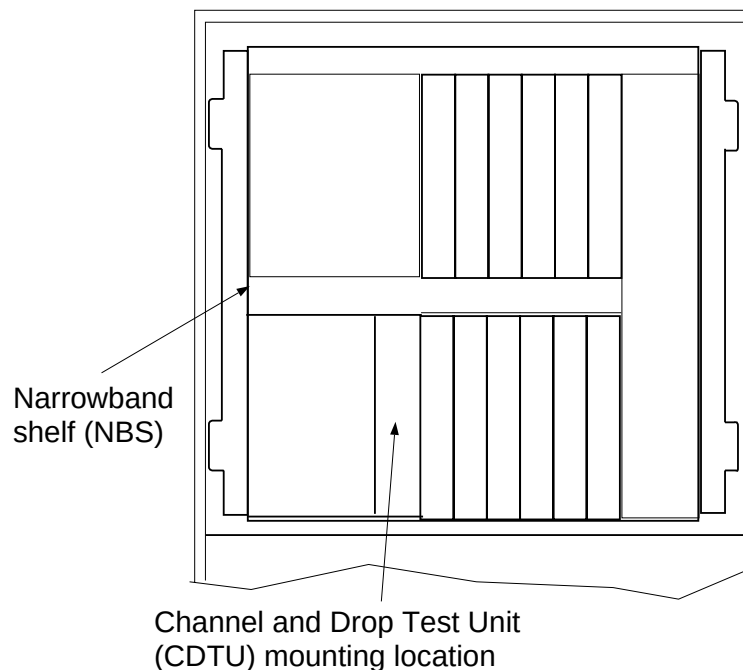

Figure 1 – Front View of Narrowband Shelf
2. Locate the mounting location for the CDTU on the NBS (Figure 1).